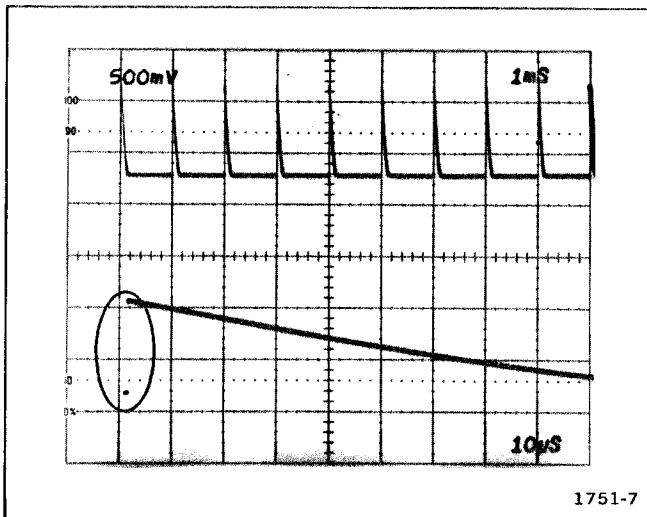

Fig.5-13. Correct DTM Scale and Delay Start adjustment (circle).
- c. Position the first time-mark to the second vertical graticule line, using the POSITION control. See Fig. 5-13 for reference.
- d. Adjust—DTM Scale, R495, to start rising portion of tenth time-mark so Delayed (bottom) sweep display coincides with second vertical graticule line. See Fig. 5-13 for reference.
- f. Adjust—Delay Start, R425, to start rising portion of second time-mark so Delayed (bottom) sweep display coincides with second vertical graticule line. See Fig. 5-13 for reference.